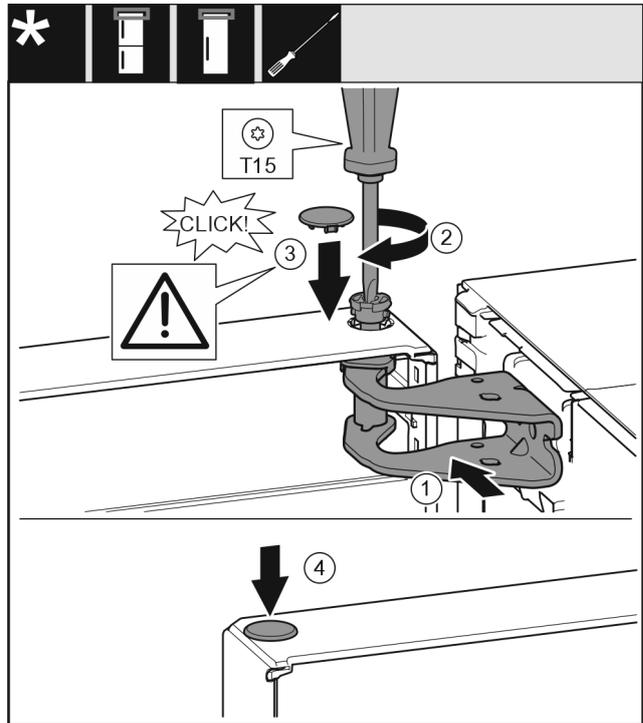

Fig. 49
- ▶ Align the top door with the opening in the swap bearing block Fig. 49 (1).
- ▶ Insert the bolt Fig. 49 (2) and use screwdriver to tighten it.
- ▶ Insert the cover Fig. 49 (3).
- ▶ Check that the cover Fig. 49 (3) is resting on the door.
- ▶ Insert the cover Fig. 49 (4).